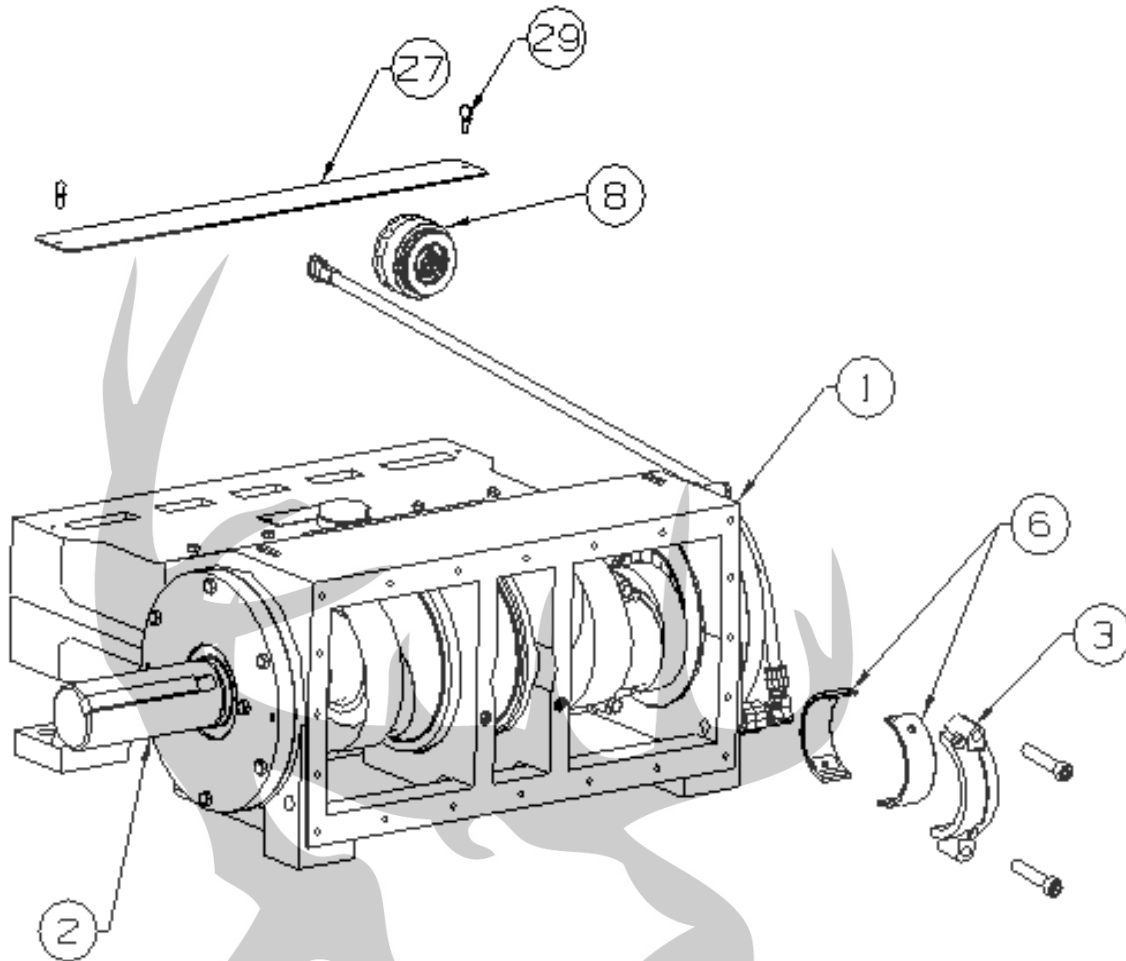

Figure 8: Q12 Connecting Rod Caps
4. Remove the connecting rod caps by unscrewing the two cap screws that hold each of the caps in place. See Figure 8.
5. Connecting rods and caps (3) are matched sets and must be reassembled with their original mate, in the same orientation, and at the same crankshaft location. Note the numbered codes stamped on each of the connecting rod assemblies.